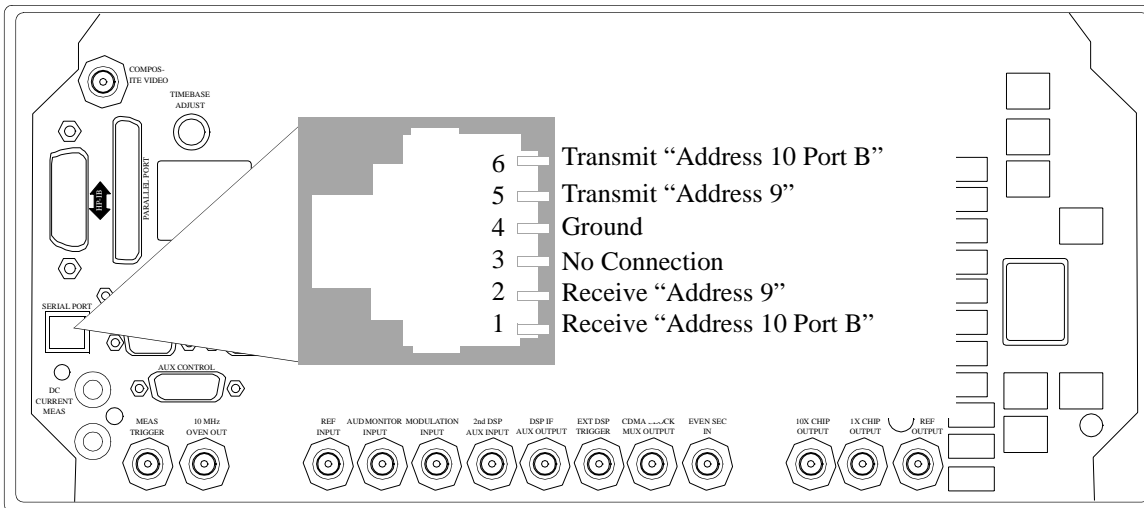

Figure 8 Serial Port Pinout
- RJ-11(see figure 8 on page 104)
- The IBASIC controller sends and receives data to the serial ports using address **9** for the primary port (A), and address **10** for the secondary port (B). For example, to enter data from the primary serial port (A) into a program variable named SDATA, you could use the command: